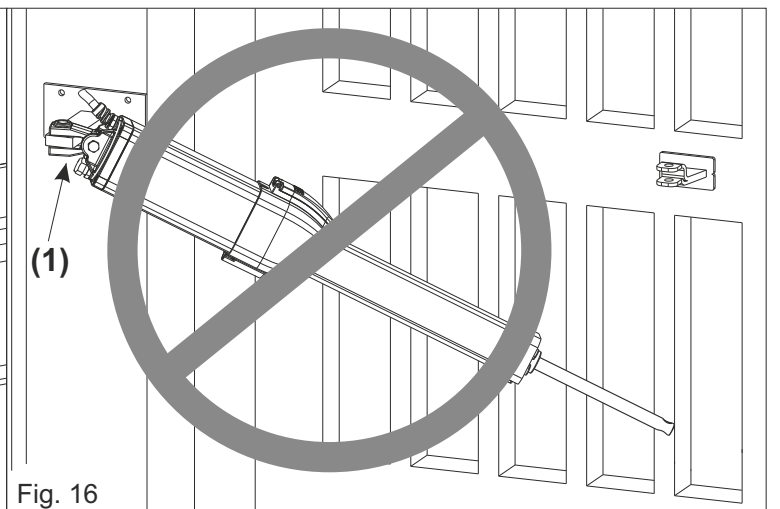

Fig. 16
⚠ DO NOT incline the hydraulic operator further than the oscillating fork allowed angle (1), it may cause its breaking (Fig. 16)